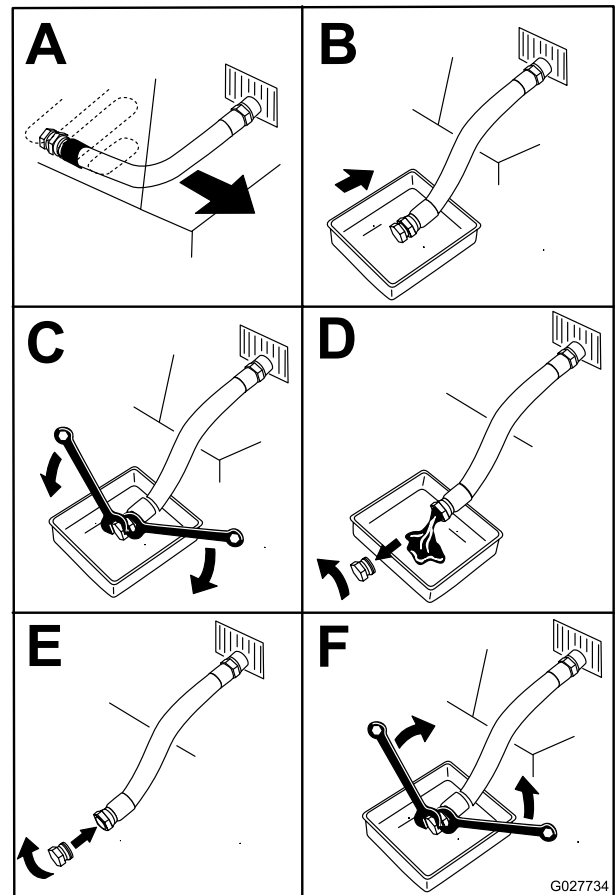

Figure 47
- Drain the oil from the engine (Figure 47).